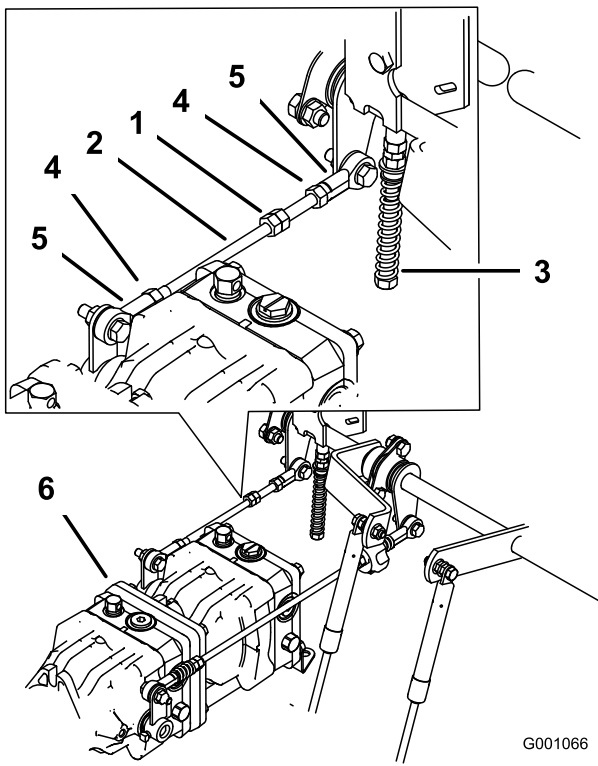

Figure 80
1. Loosen the locknuts at the ball joints on the pump control rod (Figure 80).
3. Adjust the pump rod length by rotating double nuts on rod, in the appropriate direction, until wheel is still or slightly creeps in reverse (Figure 80).
6. Tighten the locknuts at the ball joints (Figure 80).